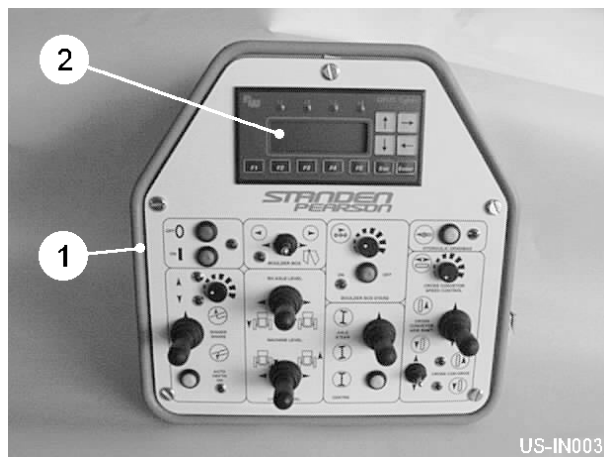

Fig 5
Control for the major functions of the Standen Unistar are provided electronically by the switches mounted on the in-cab control box (item 1, fig 5) switching the valves on the machine via a CAN-Bus control system. The functions can be monitored from the control box display screen (item 2, fig 5). Setting and monitoring can be carried out by following the instructions in the CAN-Bus operating instructions.